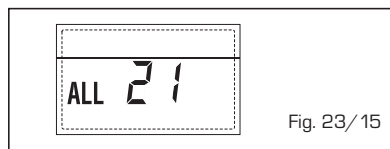

Fig. 23/15
- INTERVENTION THERMOSTAT SECURITE DEUXIEME ZONE MIXTE "ALL 22" (fig. 23/16)